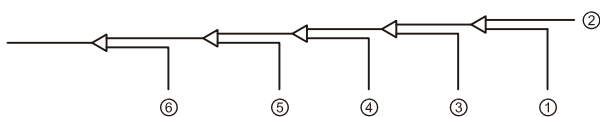

Figure 5.15
- Flush the other openings in the same manner, working in sequence from indoor unit A towards the outdoor units. Refer to Figure 5.15.